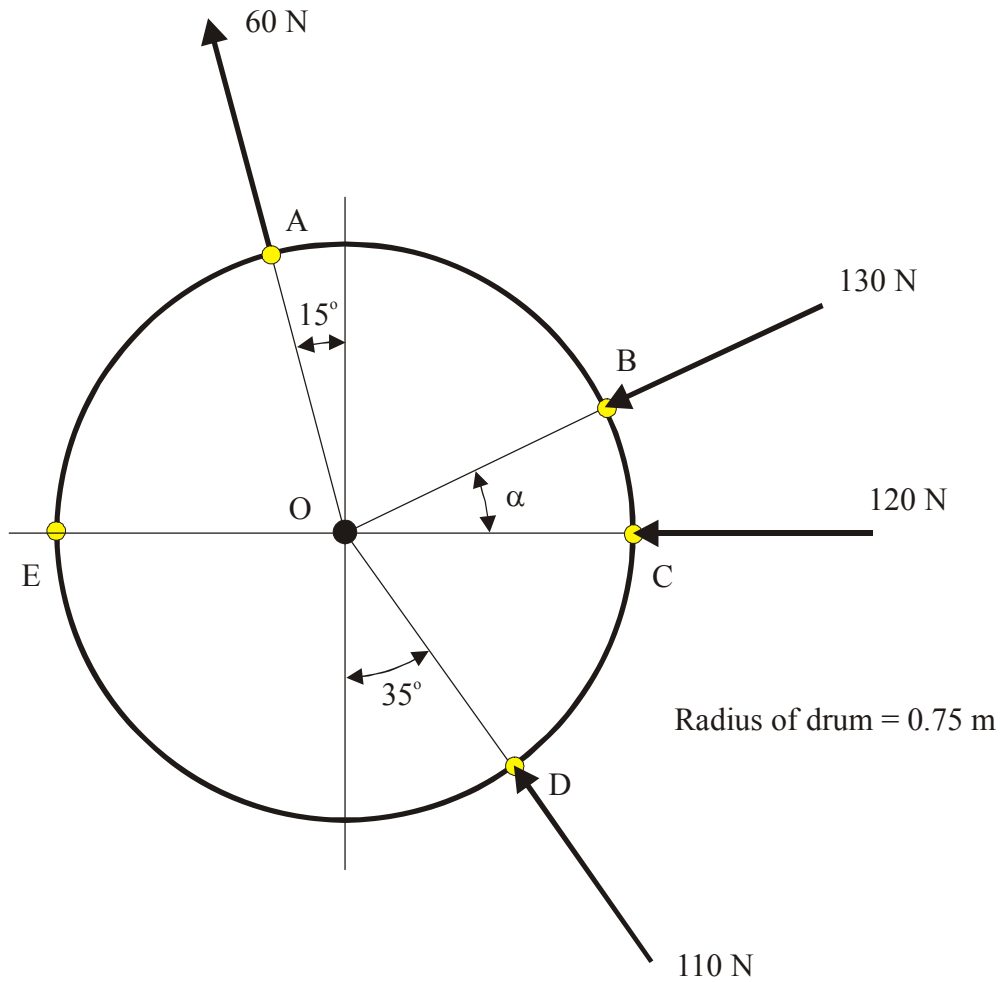

**Figure 1(a)**
**S2-218** A large truck is stuck on the centerline of Fermor Avenue as shown. A single tow truck is brought in but it cannot move the large truck as shown in Figure 1(a). A force of  $45\text{ kN}$  directed along the centerline of Fermor is required to move the large truck. A second tow truck is brought in. The two tow trucks are now attached as shown in Figure 1(b).
**S2-306** A sign structure has four forces and a couple-moment applied to it in the location shown in Figure 1 below.
**S2-404** The truss shown in Figure 1(a) is supported by a pin support at *A* and by a short link *JD*. A 30 kN horizontal load and a 30 kN vertical load are applied at joint *G*. Determine the forces in all members of the truss and state or indicate whether they are in tension or compression..